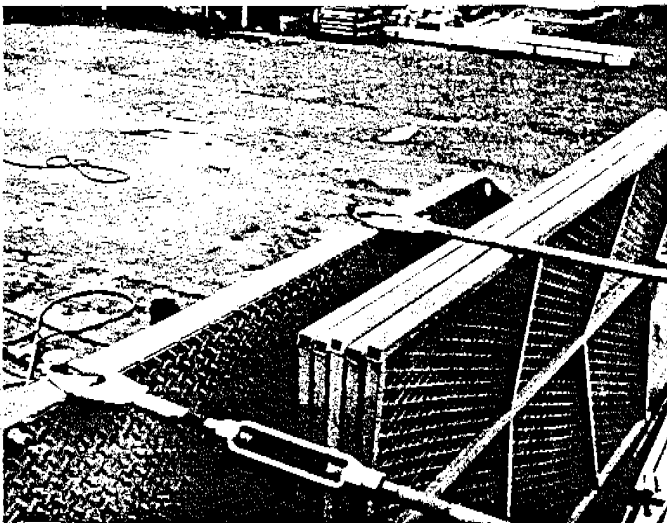

Fig. 14
- (1) Remove the turnbuckles that secure the main platforms in the folded position. (Fig. 14)